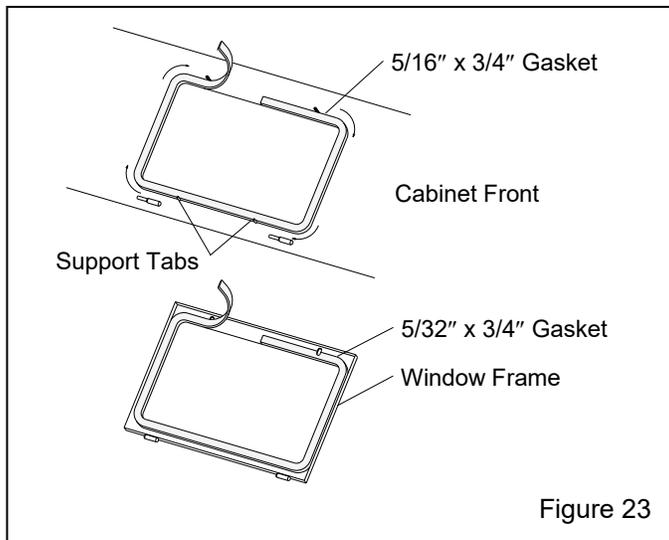

Figure 23
### 7.5 Window-Gasket Replacement – Figure 23
**7.5.4** Peel a short section of adhesive backing from the 5/16"-thick strip gasket and adhere the gasket to the center of the top edge of the window opening, as shown in Figure 23. Peel additional backing as needed and work the strip around the radius of each corner, pressing it firmly to bond. Trim the gasket to fit and compress the ends to seal.